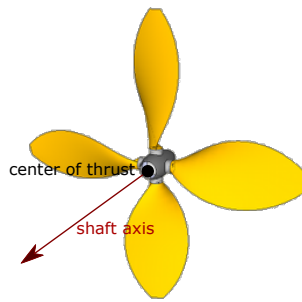

Figure 3.31: Propeller
- `shaftAxis`: defines the axis along which the resultant thrust and torque will be exerted, see figure 3.31.
- `centerOfThrust`: defines the point where the generated thrust applies, see figure 3.31.